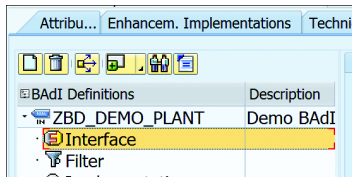

Figure 20.40 Define Interface
1. Double-click the INTERFACE subobject (see Figure 20.40), to define an interface for the BAdI. This interface will be used in the implementation class.